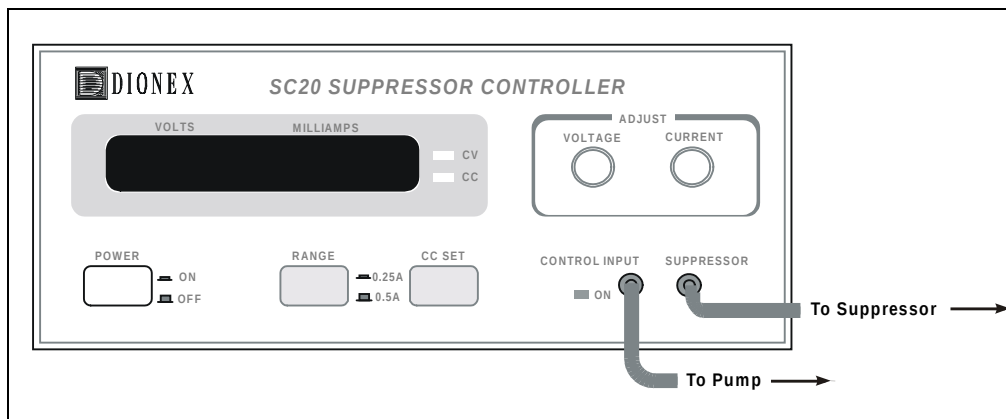

Figure 9. SC20 Suppressor Controller Front Panel
2. Locate the **SUPPRESSOR** cable extending from the front panel of the SC20 Suppressor Controller (see Figure 9). Route this cable to the chromatography compartment.
1. Locate the **CONTROL INPUT** cable extending from the SC20 front panel (see Figure 9).
1. Turn the **VOLTAGE** and **CURRENT** knobs on the SC20 front panel (see Figure 9) fully counterclockwise to prevent high voltage and current when the system is turned on.